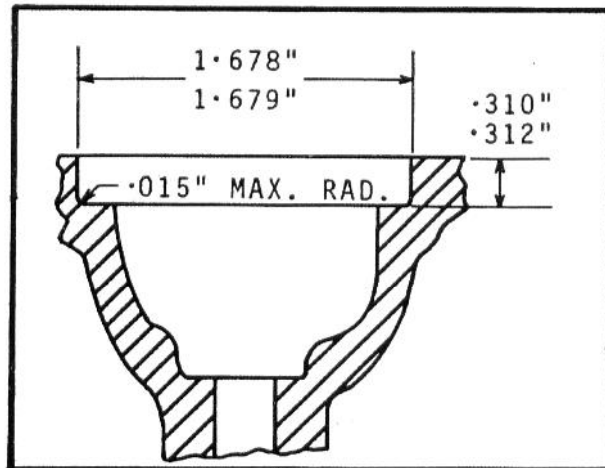

Fig. 5 — Machining Dimensions for Exhaust Valve Seat Inserts
2. Press new guide into position. Install a pilot into the new guide and machine the recess in the cylinder head face to the dimensions shown in Fig. 5.